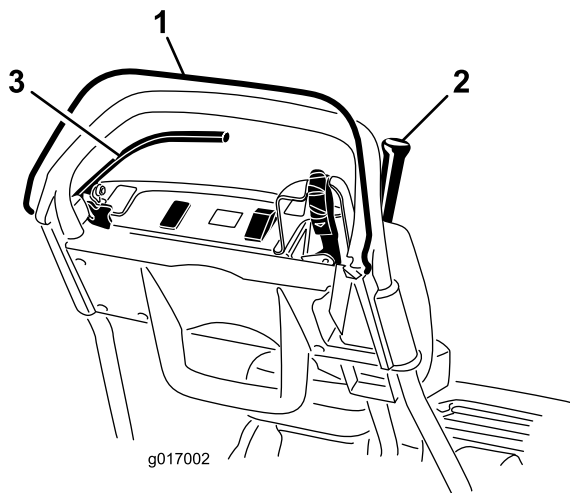

Figure 34
3. With the OPC released, attempt to engage the traction lever (Figure 34). The traction lever should not engage. If the traction lever engages, the interlock system needs service. Correct the problem before operating the machine; refer to Servicing the Traction Interlock Switch \(page 36\).
4. With the OPC pressed and the traction lever engaged, release the OPC (Figure 34). The traction lever should disengage. If the traction lever does not disengage, the interlock system
5. With the OPC pressed and the shift lever moved to the left, engage the traction and reel drive, release the OPC (Figure 34). The traction lever should disengage. If the traction lever does not disengage, the interlock system needs service. Correct the problem before operating the machine; refer to Servicing the Traction Interlock Switch \(page 36\) or Adjusting the Reel Control \(page 40\).